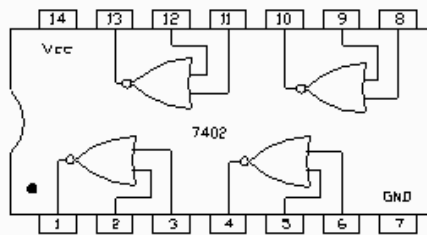

Figure 6: 7402 Pin configuration
- 6- Insert the 7402 IC into the bread-boarding socket, connect pin 14 to +5V and pin 7 to GND. Figure 6 shows the pin configuration for this IC.